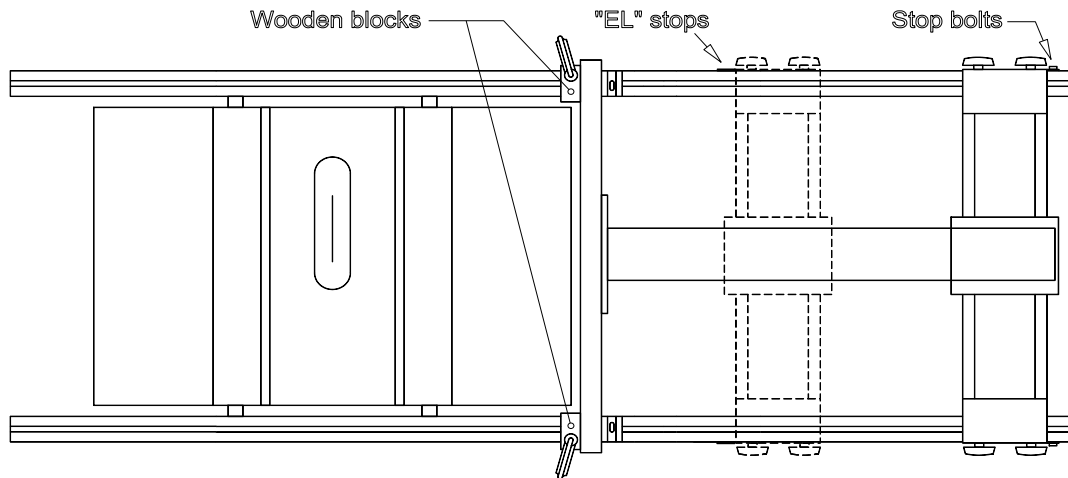

Fig. 2 – Base assembly repositioned 510mm to the right
6. Unlock the LS positioner and slide the base assembly toward the end of the rails. Fully lock the red lever when the 0mm mark on the steel scale shows under the cursor. This moves the base exactly 510mm to the right from its original position. (Fig. 2)
7. With the fence still touching both wooden blocks and the base assembly resting naturally on the rails, tighten the base clamping knobs, and lastly tighten a pair of stop bolts against the edges of the base clamps that are furthest from the blade. (Fig. 2)